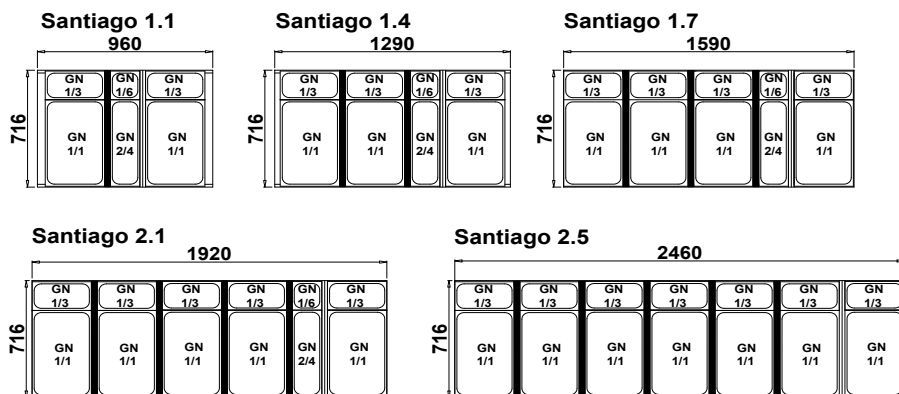

Fig.2 Layout of GN containers in „Santiago Gastro” device
5. (Concerns only "GASTRO" displays) place universal salad tank in the display cabinet. Place cross-bars under GN containers in the module tank, and then place GN containers according to Fig.2